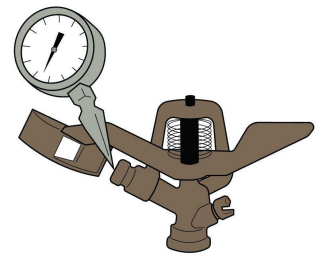

Figure 4. Measure a sprinkler's operating pressure by using a pitot tube placed in the sprinkler stream.
- A pitot tube inserted into the sprinkler stream (Figure 4).